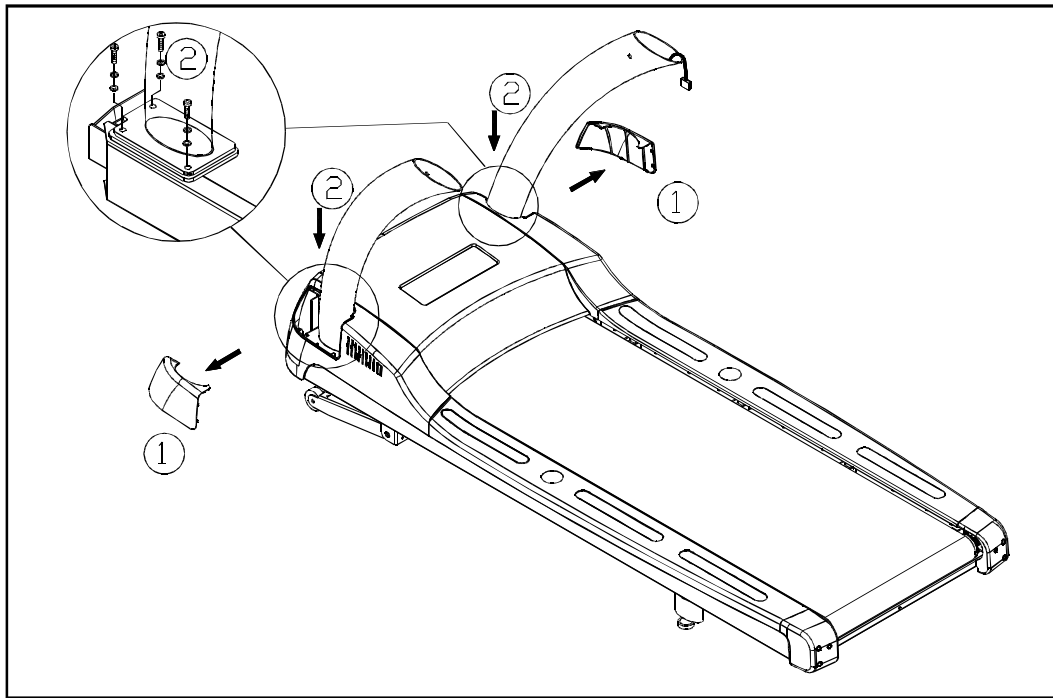

Fig.1
STEP 1. First, remove the side plates of the pedestals (both left and right). Then thread the data cable through the right pedestal. Secure the pedestals by fastening the bolts with washers as shown. At this point, do NOT tighten these bolts securely. (See Fig. 1.)